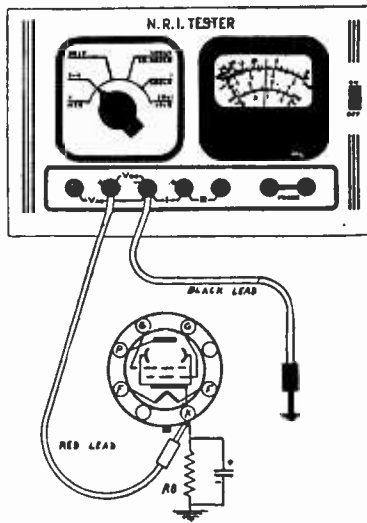

Fig. 3.
Another voltage measurement we can make is that of the bias for the 25L6 tube. The measurement can be made, as shown in Fig. 3, by holding the red probe on the #8 pin (K) of the 25L6 socket. (The black probe is still connected to the chassis.) The normal bias is measurable on the $3 \times V$ range, but should R_8 be open, the voltage across it will equal the plate voltage. Hence, you should first check with the $30 \times V$ range, then go down to the $3 \times V$ range after you are sure it won't be overloaded.